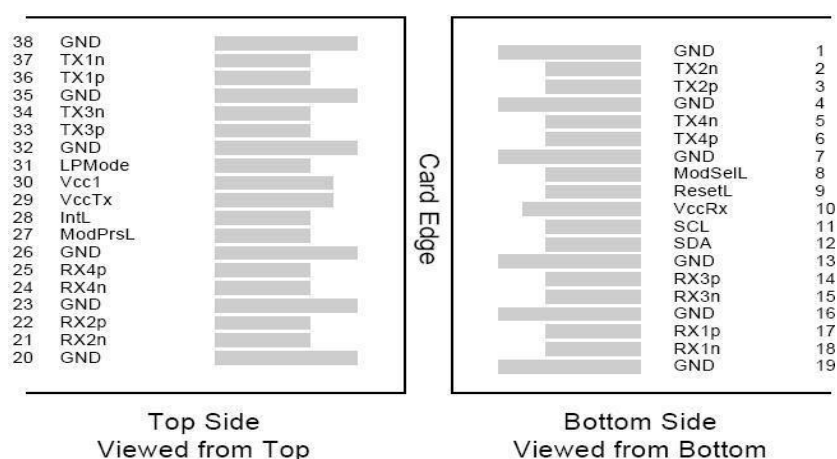

Figure 3 – MSA Compliant Connector
2. VccRx, Vcc1 and VccTx are the receiving and transmission power suppliers and shall be applied concurrently. Recommended host board power supply filtering is shown in Figure 3 below. Vcc Rx, Vcc1 and Vcc Tx may be internally connected within the QSFP28 transceiver module in any combination. The connector pins are each rated for a maximum current of 1000mA.